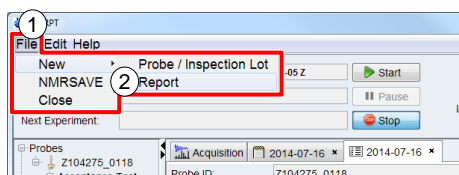
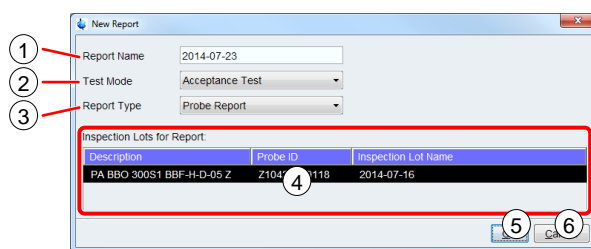

Figure 5-6: File menu, New Report
Figure 5-7: New Report dialog
To create a new report, on the **File** menu shown in Figure 5-6 (1), point to **New**, and then click **Report** (2). The New Report dialog (Figure 5-7) opens up.
## New Report Dialog (Figure 5-7)